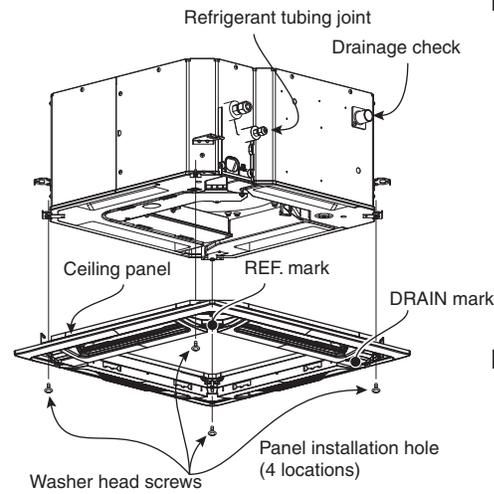

Fig. 3-45
(2) Align the panel installation holes and the unit screw holes. (Fig. 3-45)